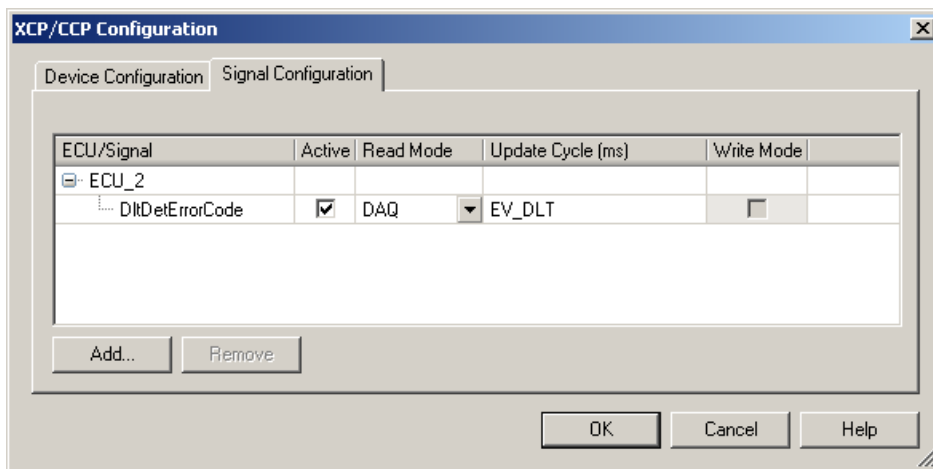

Figure 4-4 Selection of the XCP measurement object for DLT logging of DET reports
- > DLT Reporting of DET Errors: Select the “Signal Configuration” tab and add the signal Dlt\_DetErrorCode to your measurement list. Select DLT\_DET as XCP event channel for measurement as shown in Figure 4-4.